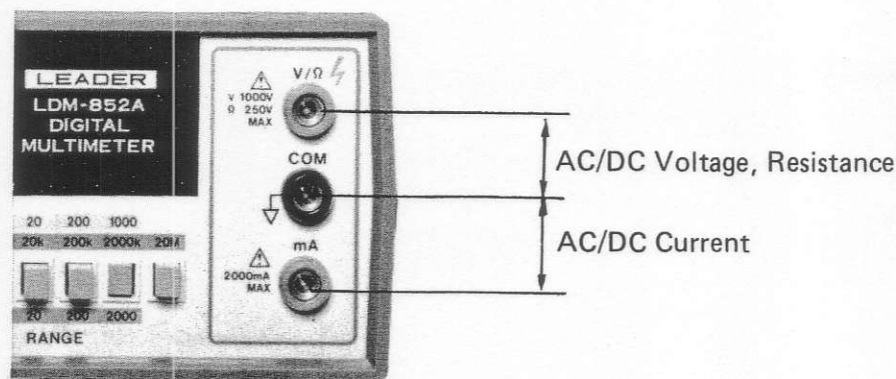

Fig. 4-2. Test Leads Connections
- (4) Connect the test lead to the input terminal corresponding to the function to be measured. See Fig. 4-2.